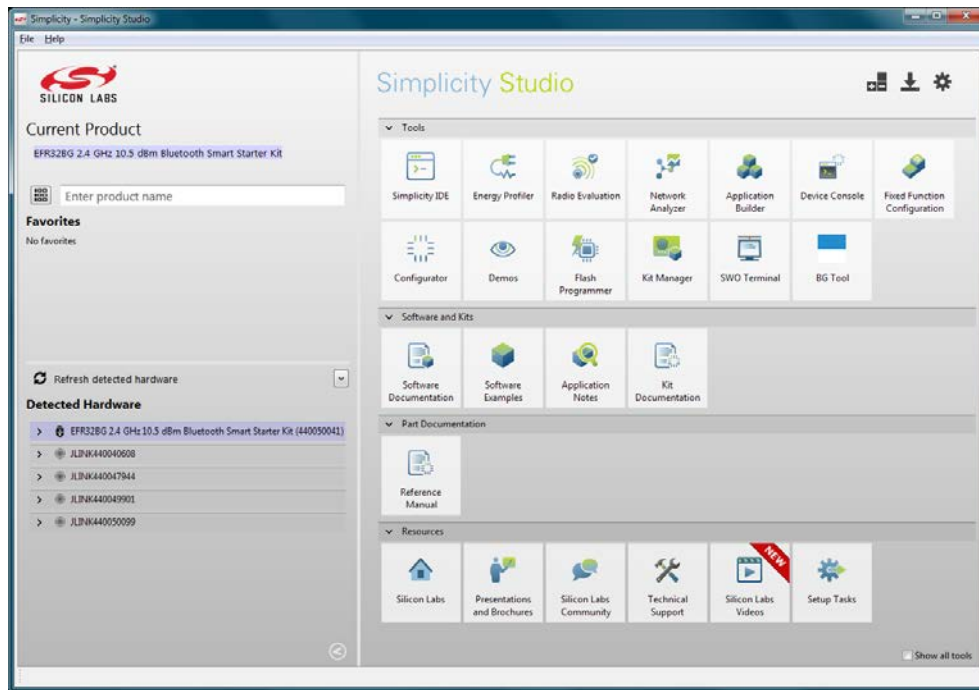

Figure 11. Simplicity Studio's Simplicity Perspective
2. In the New Example dialog shown below, enter the kit, part, and SDK. Kit and part will be filled by Simplicity Studio if the hardware was detected and displayed in the Simplicity perspective (Figure 11).